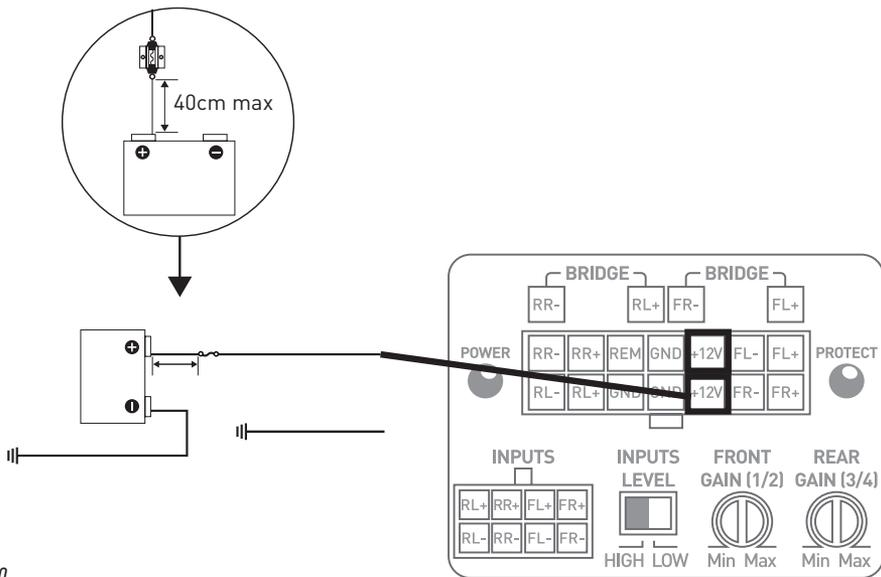

fig. 10
- 9 - Always protect the battery and electric circuit from potential damage using fuses. Install a fuse holder and adequate fuses on the 12V positive (+) power cable less than 15" [40cm] away from the battery terminal. Ideally, this above-mentioned distance should be as short as possible (*fig.10*).
Solder the positive (+) power cable to the wiring harness supplied for your IMPULSE 4.320 amplifier (fig. 10)